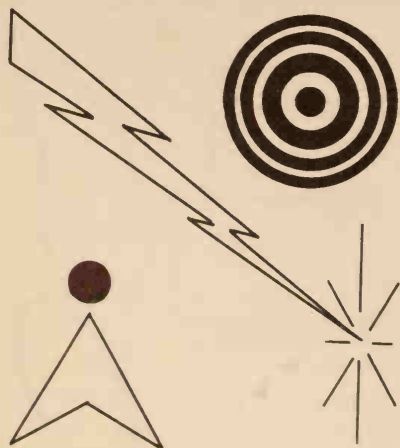

Fig. 2-6. Emphasis is brought out through shape, color, or decorations.
7. Emphasis. The design is given a point of interest. A certain part of the object may stand out through the use of color, its shape or the way it is decorated, Fig. 2-6.